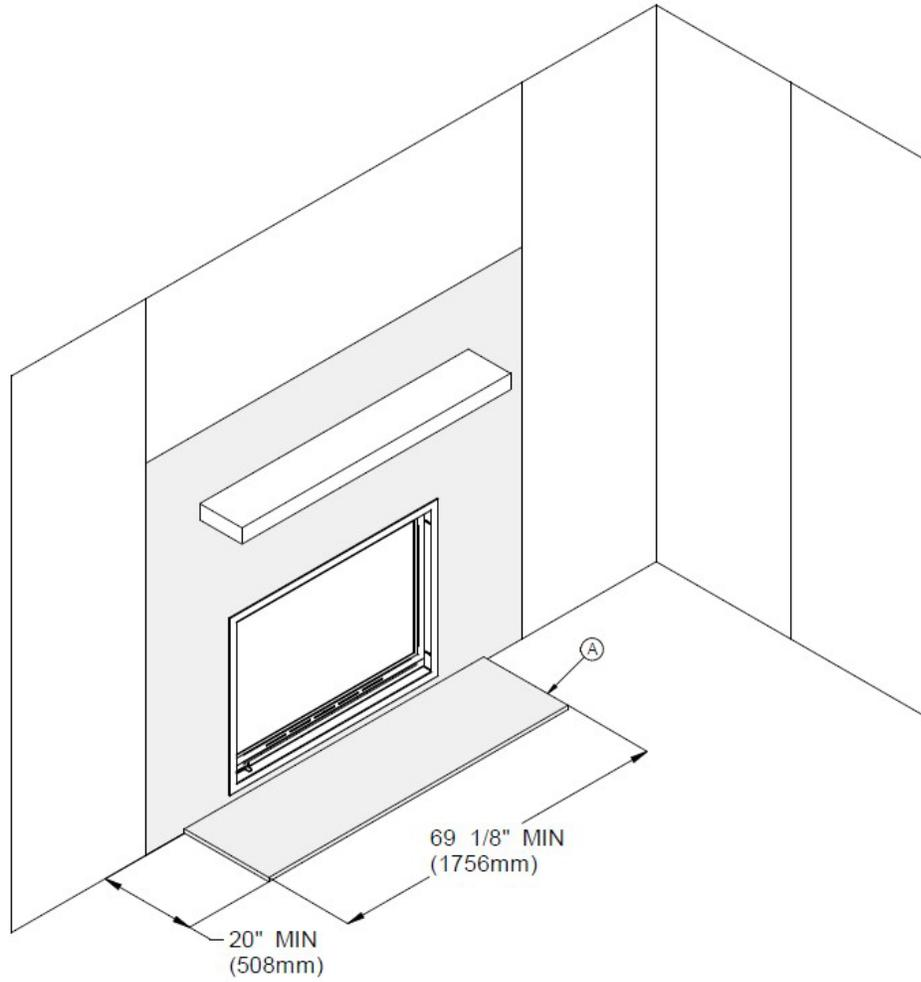
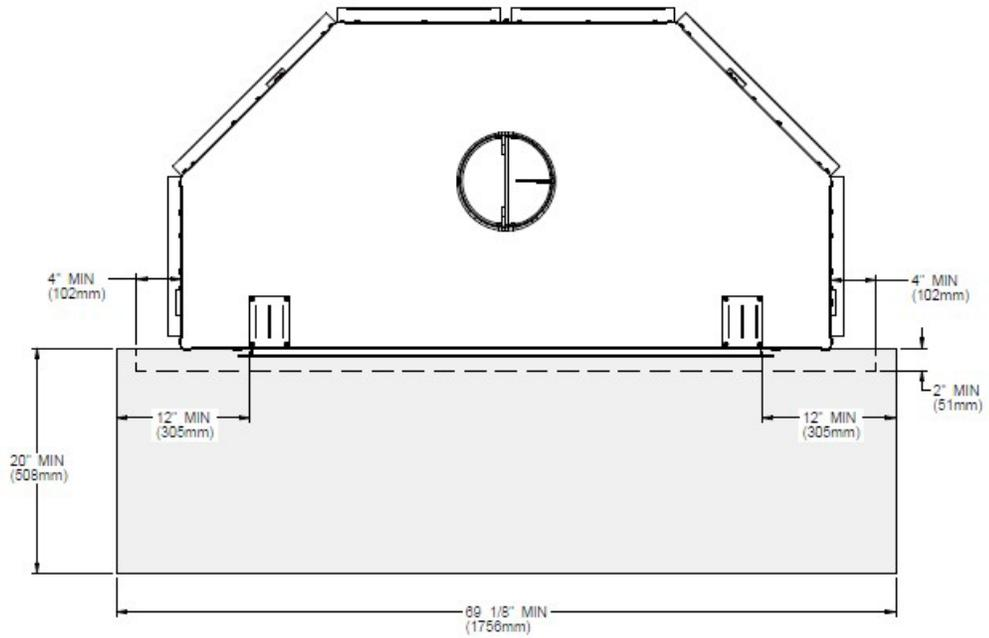

Figure 4
Figure 5
The hearth extension floor area (see (A), Figure 4) must extend at least 20" (50 cm) in front and at least 12" (30 cm) on each side of the door opening (see Figures 5 and 6). The joint between the hearth extension and the fireplace hearth needs to be made of non-combustible material such as sheet metal or sand-cement grout (not included) as shown on Figure 6.
WARNING: THE HEARTH EXTENSION IS TO BE INSTALLED ONLY AS ILLUSTRATED (see Figures 5 and 6).